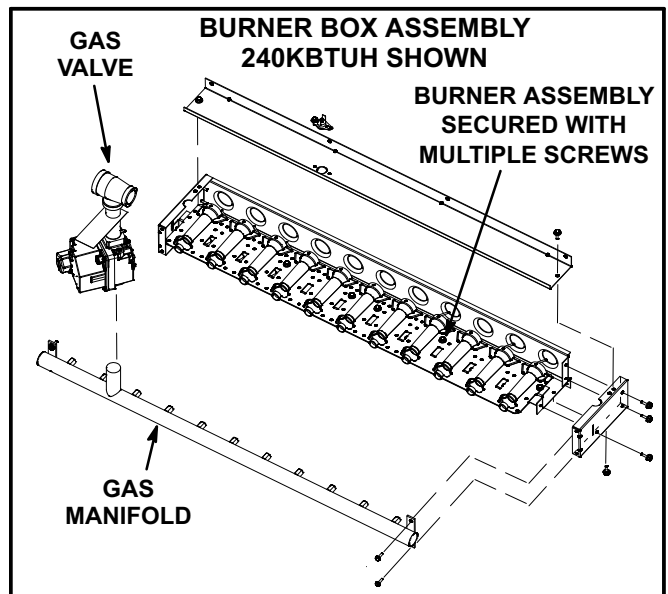

FIGURE 26
- 3- Remove screws securing burner assembly to burner support and remove assembly. See figure 26. Clean as necessary.